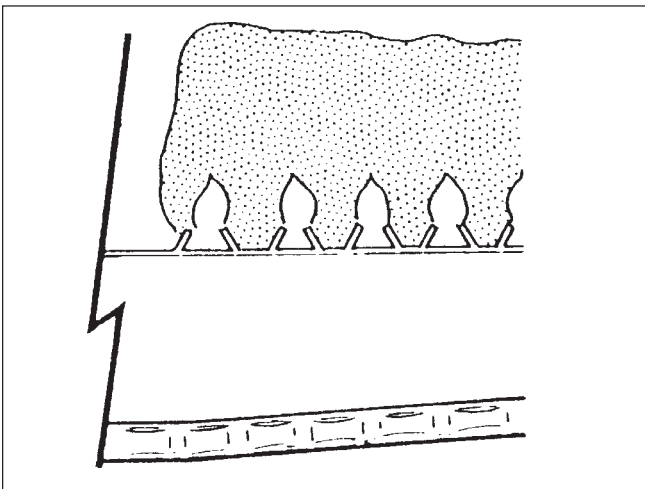

Figure 24. Main Burner Flame
- b. 1 to 4 inches (25mm to 102mm) above burner surface (see Figure 24).